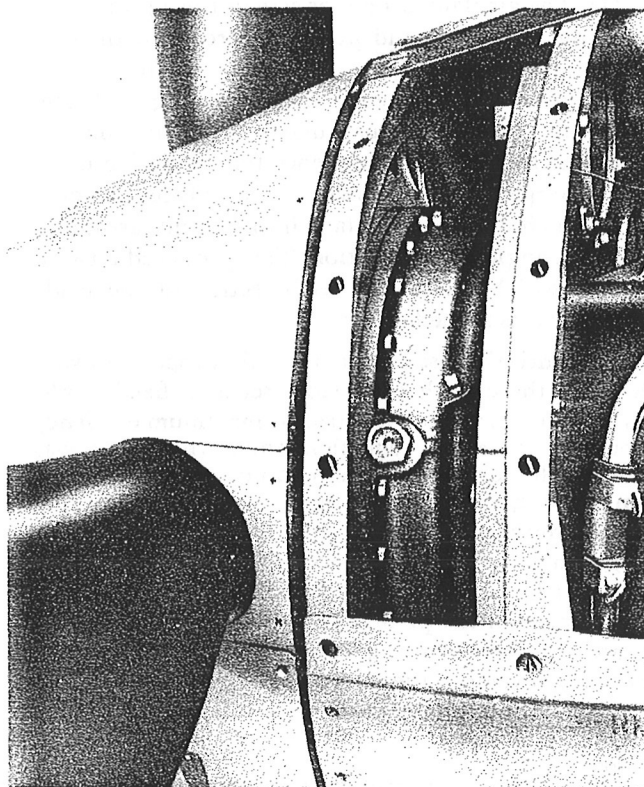

Figure 28—Turning Propeller to Add Fluid to Regulator
(1) Turn the propeller until the regulator filler plug is in a horizontal position on the left side of the airplane. The No. 1 blade will be a little below horizontal on the left side. (See figure 28.)